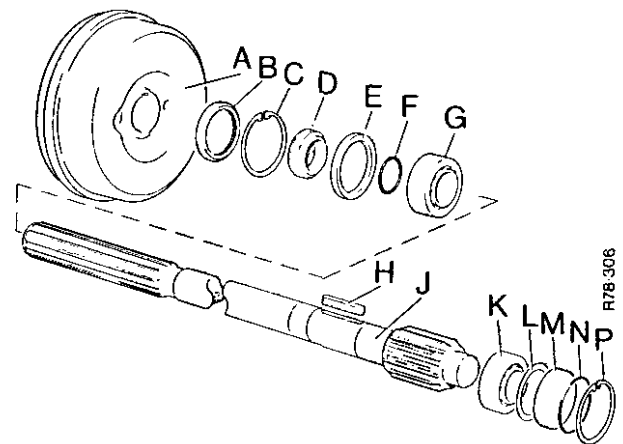

FIGURE 110. SPUR PINION SHAFT
1. Install the circlip C into the casing. Figure 110.